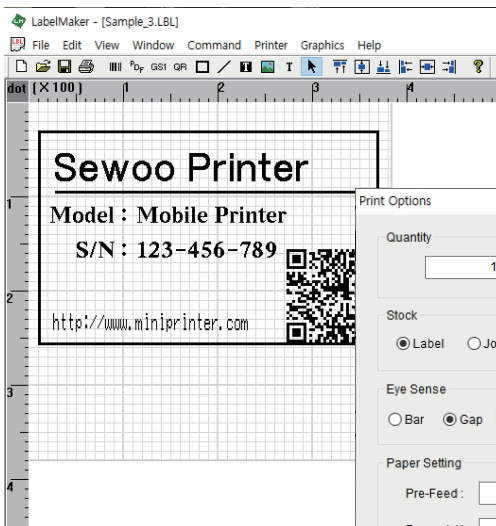

Figure 1
- 03 Proceed with Label Design and click the Print menu. (Refer Figure 1)